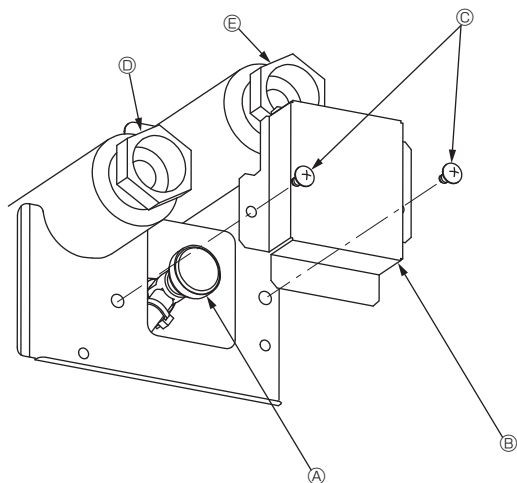

Fig. 7-1
7.2.2. The air vent valve of indoor unit (Fig. 7-1)
- ① Remove the air purge valve cover.
- ② Turn the knob on the air purge valve to release the air.